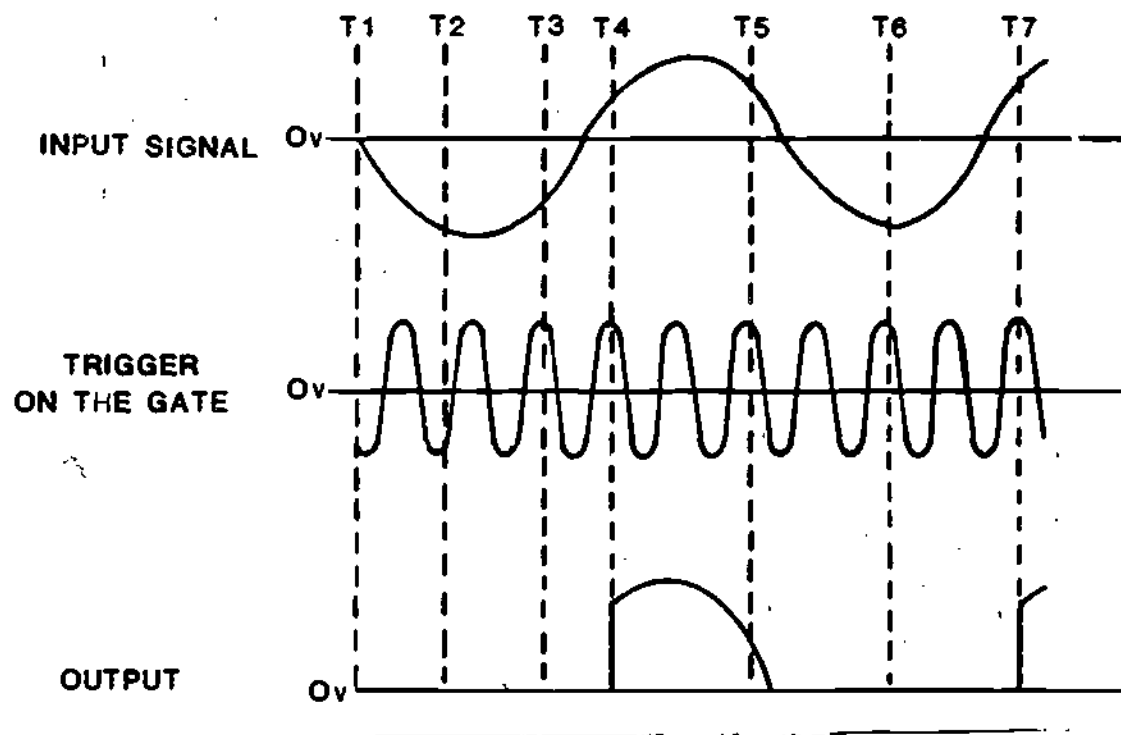

Figure 4
8. Study the waveforms shown in Figure 4. These waveforms depict pictorially how the SCR operates.